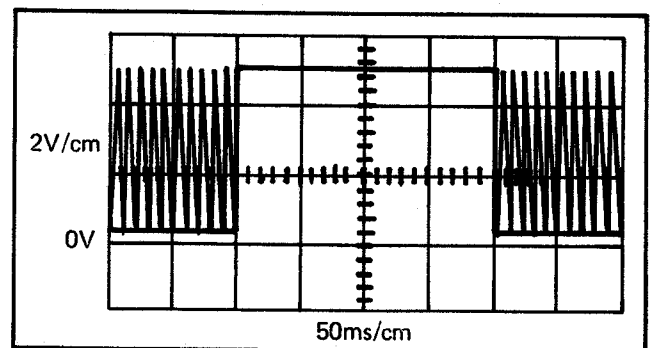
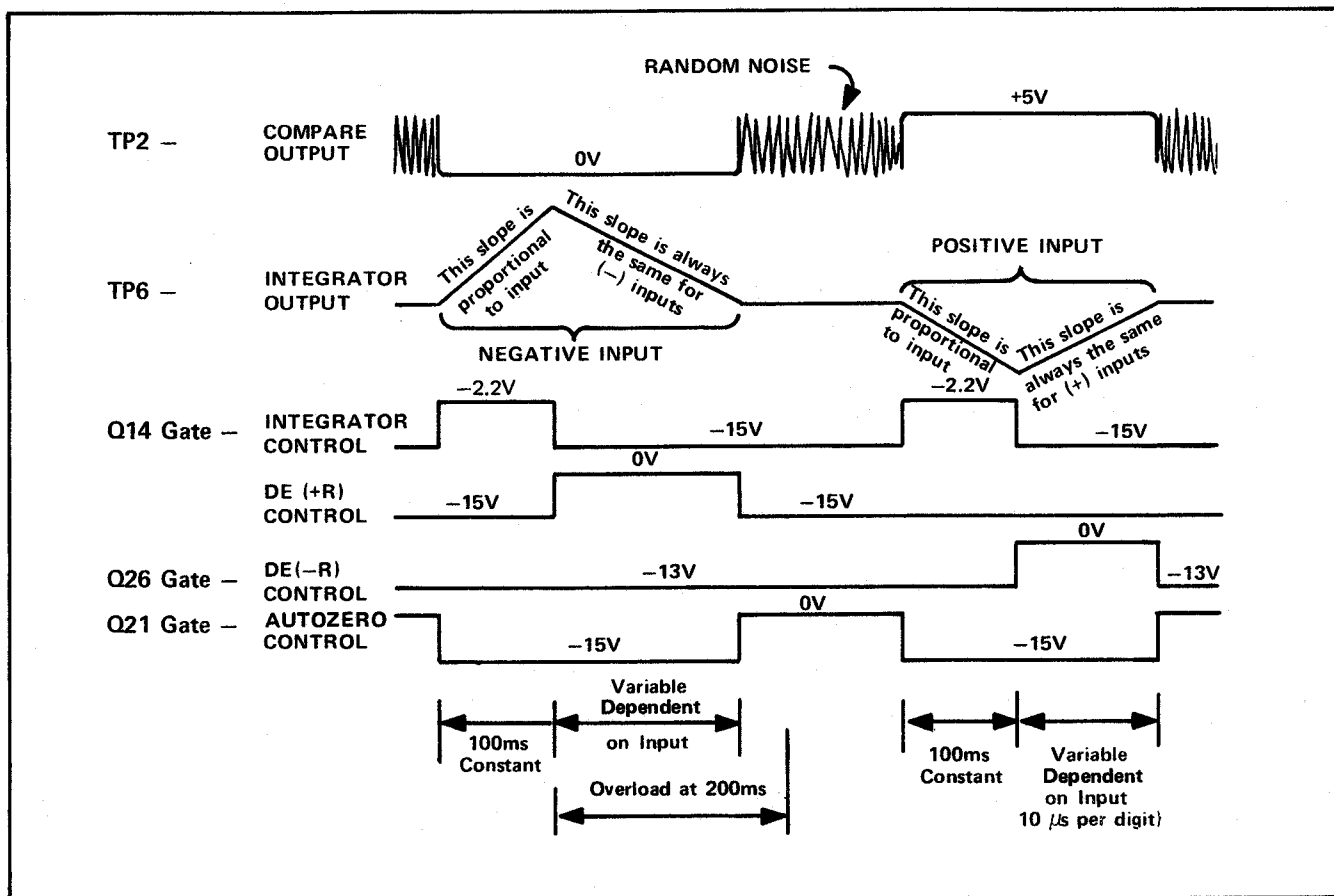

Figure 4-3. A/D CONVERTER OUTPUT SIGNAL
Figure 4-4. A/D CONVERTER CONTROL SIGNALS
- d. The signal at TP2 should be as shown in figure 4-3.
4-59. The stable +5V section of the waveform shown in figure 4-3 should be 200msec long for a +1V dc input. If the dc input voltage is increased to 2V, the stable portion of the waveform should be 300msec long. If the waveform is incorrect, the problem is in the display section. If the waveform is incorrect, refer to figure 4-4 for further test points and waveforms in the A/D Converter. Check the waveforms at the buffer, U4, for the correct voltage from Q14 and the appropriate reference (U17, Q17, and Q21). U4 has a gain of 5 so the waveform at its output should be 5 times its input (not inverted). The output of U5 should be triangular as shown and opposite in polarity to the buffer input.
4-60. The control waveforms and timing are important to the correct operation of the A/D Converter. The waveforms and test points are shown in figure 4-4. Continue with the test setup in 4-58. First check the signal at the gate of the FET. If absent or wrong, check that output from U8, keeping in mind that the driver transistors act as inverters. The operation of U8 with respect to the A/D Converter may be checked as follows.